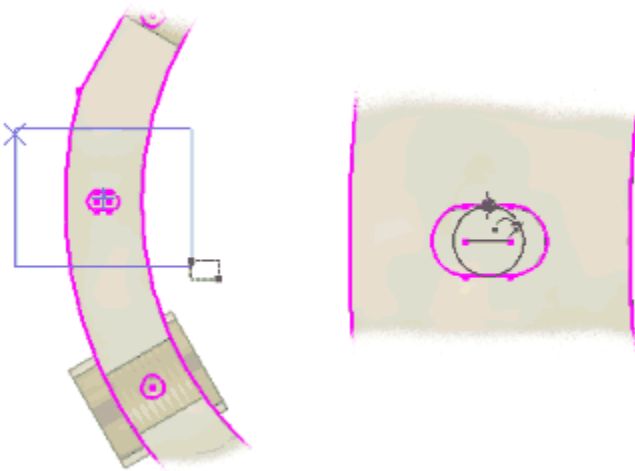

Figure 4: Zoom area and additional sketch geometry.
5. Look at the sketch face and zoom in on the slot shown in the left-side image in Figure 4.
6. Add a construction line between the two arc centers and a normal style circle centered on the construction line, with a radius tangent to the slot edge as shown in the right-side image in Figure 4.